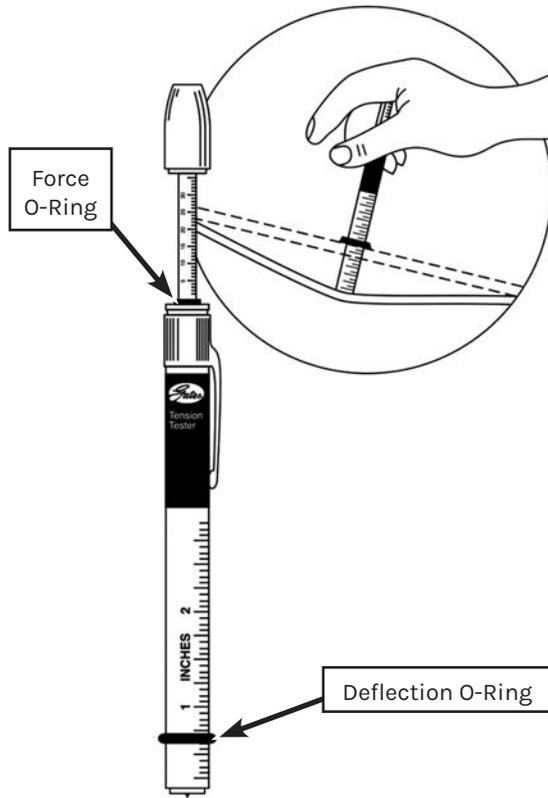
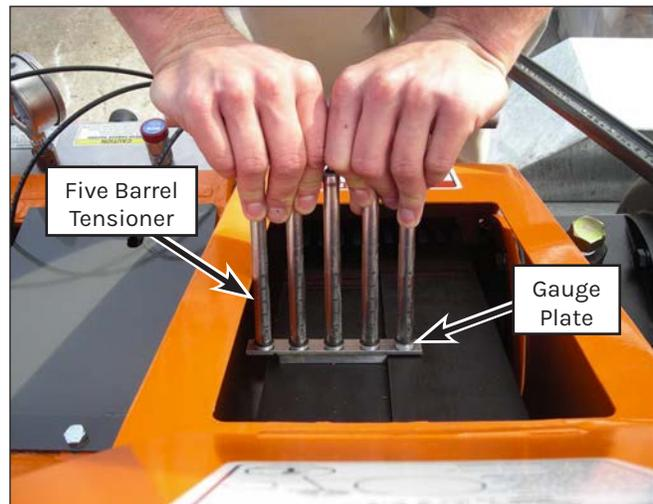

Figure 137: Single Belt Tension Tester.
Figure 138: Power Band Tensioning
4. Adjust the deflection O-ring (Figure 137) on a belt tension tool for the proper deflection as specified on the decal. Slide the force O-ring to the bottom of the scale. Use a five barrel tensioner if power bands are used on your unit (Figure 138).
5. Position the tension tool in the middle of one of the belts mid-way between belt pulleys. Press on the tool until the deflection O-ring is even with the adjacent belt. On five barrel tensioners, press until the gauge plate (Figure 138) touches the adjacent belt.
6. Release pressure and inspect the reading at the bottom edge of the force O-ring(s) (Figure 137) on the tension tool. Adjust the